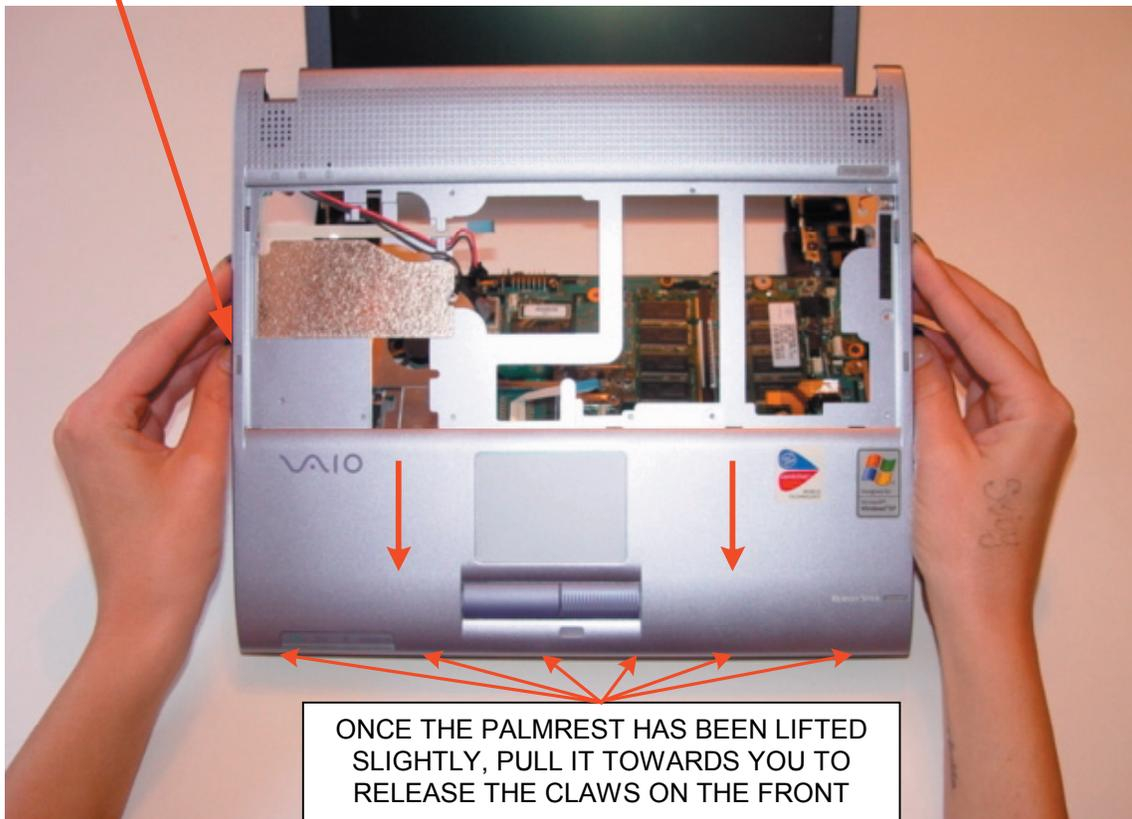

FIGURE 2-6 - PALMREST REMOVAL (step 2)
Step 2: Grasp the notebook with both hands as shown in Figure 2-6. Using your middle fingers, press on the inside walls of the battery compartment to release the retaining latches. Once the latches release, **do not attempt to lift the palm-rest assembly completely off**. Set the unit on the workbench and continue to the next step.